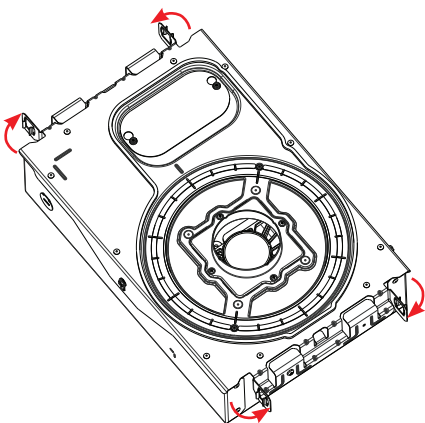

fig. 10
- a. Using pliers, bend the four millwork tabs to a 90° angle (see fig. 10).